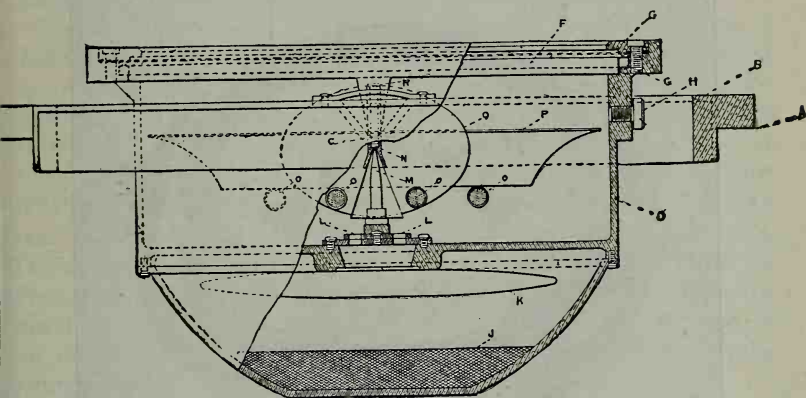

FIG. 38-1—Cross section of a standard compass.
**Magnetic compass.**—The United States Navy standard compass (see Figs. 38-1 and 38-2) is a 7½-inch liquid compass. Its main parts